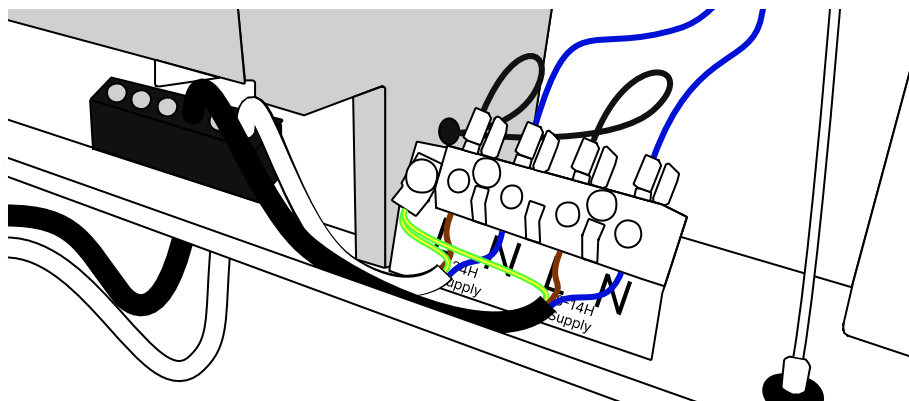

Figure 7 | Connecting the power supply (time of use tariff)
26. **For use with a time of use tariff**, ensure that the 2 red jumper cables are NOT installed. (**Figure 7**)